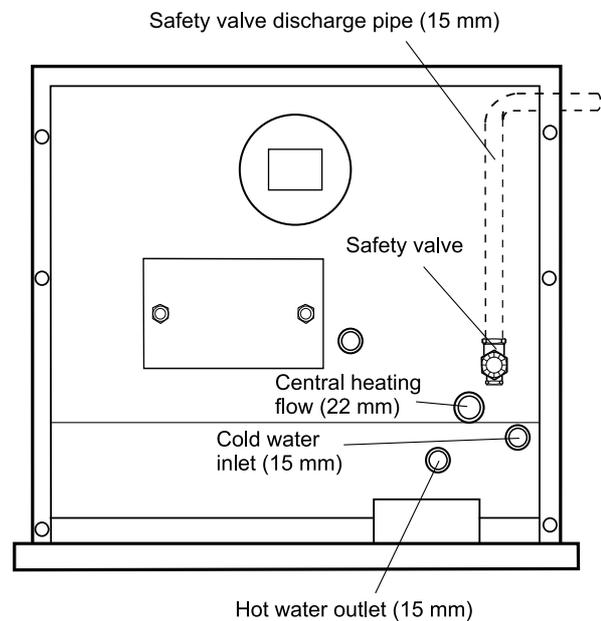
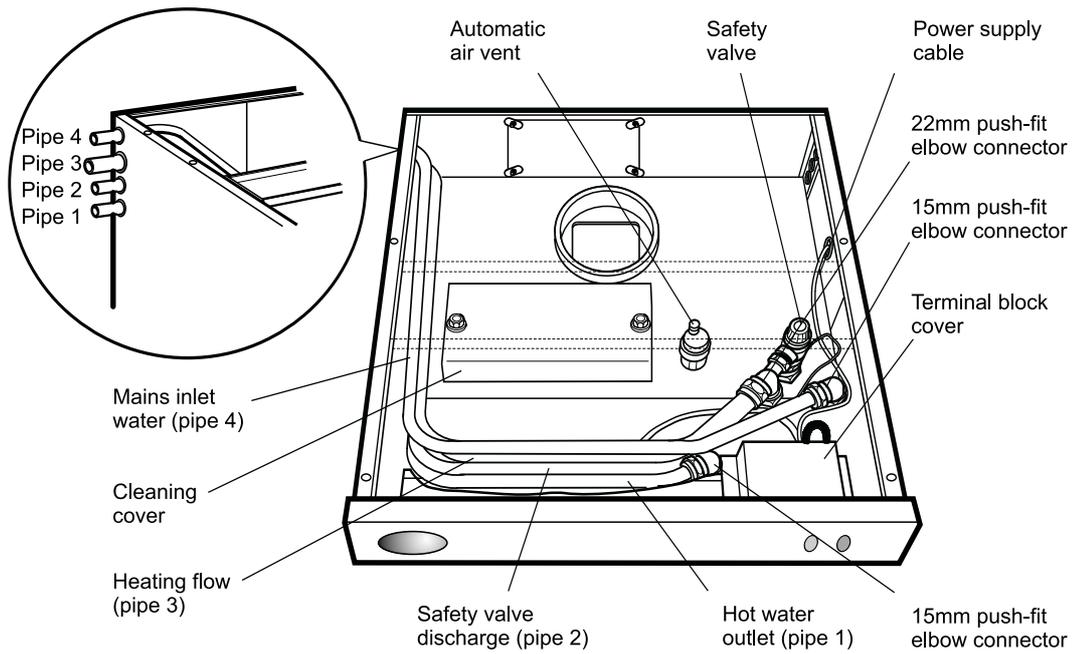

Fig. 16 - Combi 70 pipe positions
Fig. 17 - Combi 70
- 4 **Combi 70:** Fit the three push-fit elbow connectors onto the open pipe ends in the top right corner of the boiler. See Fig. 16. Connect the pipework (not supplied with the boiler) to the elbows as shown in Fig. 17.
- 1 Remove the two screws securing the boiler terminal block cover (see Fig. 17 or 19) and lift off the cover. Remove the two screws securing the cable clamp and open the clamp.
- Brown to Mains Live (L)
- Blue to Mains Neutral (N)
- Green/Yellow to Mains Earth (E)
- 1 Remove the two screws securing the terminal block cover (see Fig. 17 or 19) and lift off the cover.